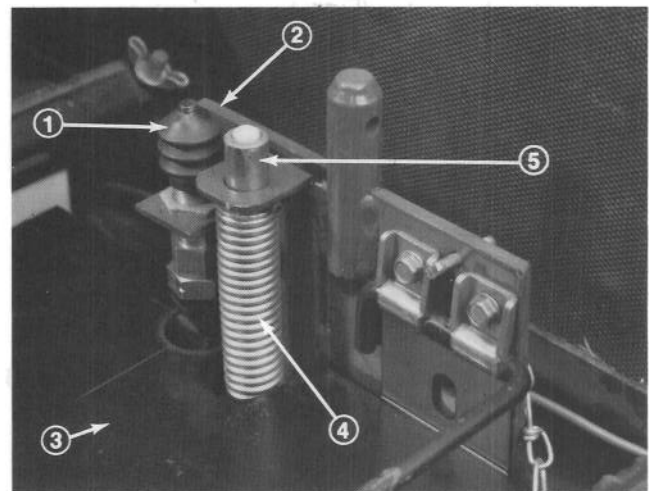

Figure 7
1. (Model 30741 only) Remove boot from button end of seat switch (Fig. 7). Pull connectors off switch terminals.
3. (Model 30741 only) Remove flange screw, truss head screw, (2) locknuts and spacer securing sealing plate, over fuel tank, to frame (Fig. 7). Remove sealing plate.
4. Insert pin part way into hole in top of seat support bracket on machine (Fig. 7).
3. (Model 30741 only) Remove flange screw, truss head screw, (2) locknuts and spacer securing sealing plate, over fuel tank, to frame. Remove sealing plate.
8. (Model 30741) Reinstall sealing plate to frame, above fuel tank with flange screw, truss head screw, (2) locknuts and spacer previously removed.